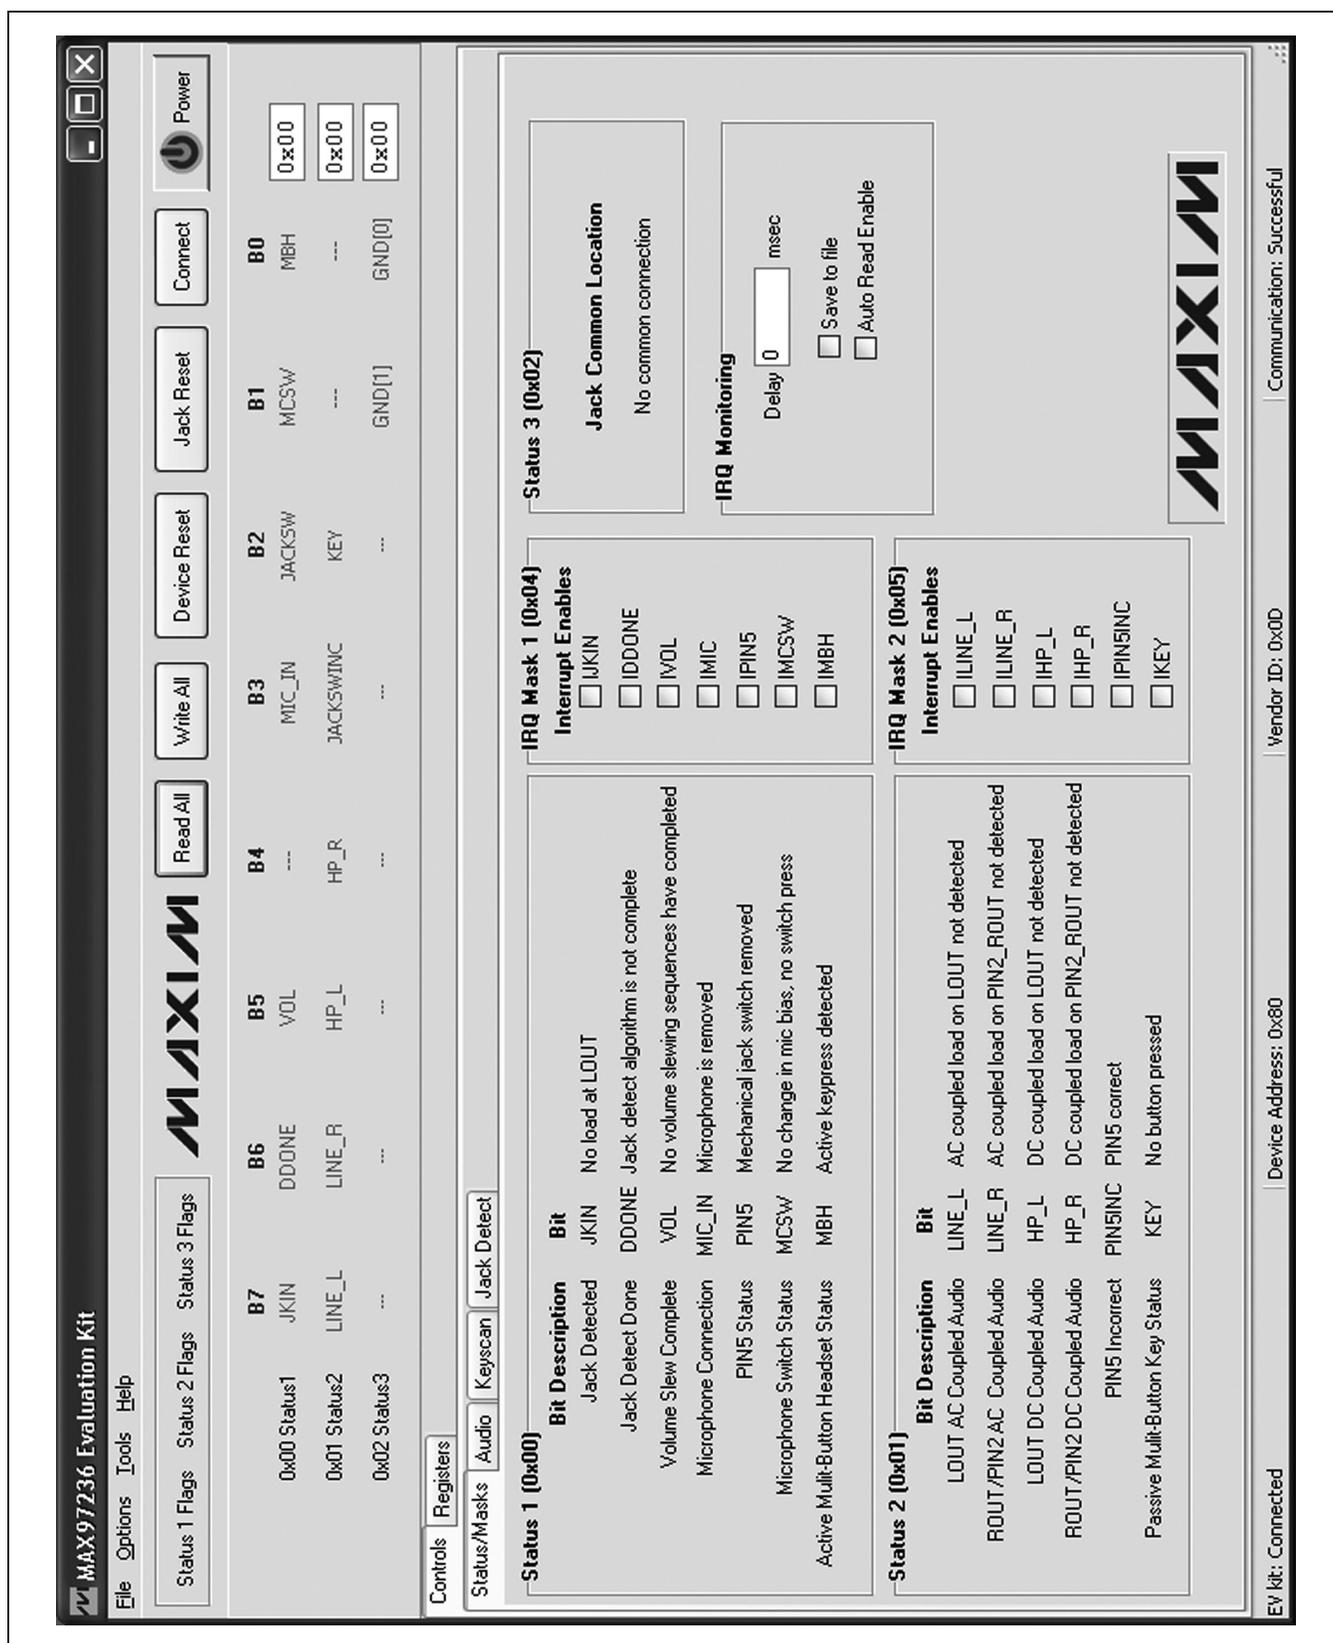

Figure 1. Status/Masks Subtab
- 5) Start the EV kit software by opening its icon in the Windows **Start | Programs** menu. The EV kit software main window appears, as shown in Figure 1.
The **Controls** tab sheet (Figure 1) includes four subtabs: **Status/Masks**, **Audio**, **Keyscan**, and **Jack Detect**. These subtabs include controls for writing to and reading from the active device registers (0x00 to 0x23).
The **Status/Masks** subtab sheet (Figure 1) provides details about the state of the status registers (Status1, Status2, and Status3). The **Status 1 (0x00)**, **Status 2 (0x01)**, and **Status 3 (0x02)** group boxes display text descriptions that correspond to the state of each status bit. Adjacent to the **Status 1 (0x00)** and **Status 2 (0x01)** group boxes are the **IRQ Mask 1 (0x04)** and **IRQ Mask 2 (0x05)** group boxes, which list the interrupt enables for each of the bits in these two registers.